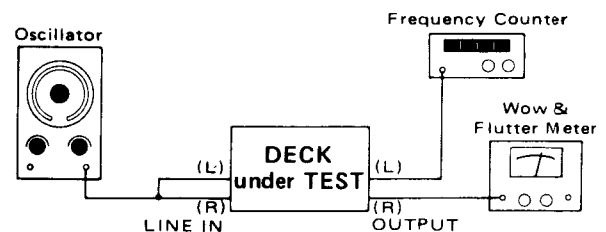

Fig. 4-3
1. Connect a frequency counter to the deck as shown in Fig. 4-3.
1. Connect a wow-and-flutter meter to the deck as shown in Fig. 4-3.